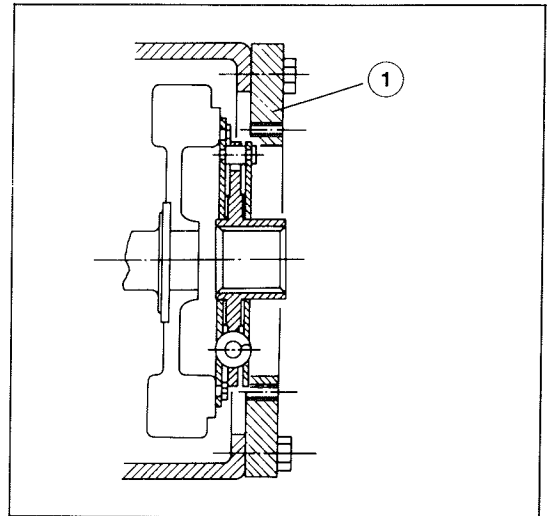

Figure 6
2. Locate the intermediate flange (Figure 6, item 1) on the flywheel housing.